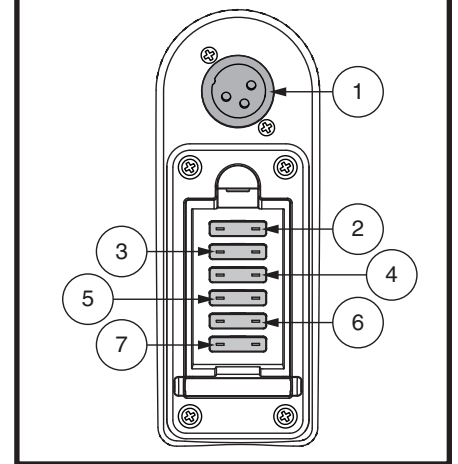

Figure 2. Off-board Charger Port/
The off-board charger power cord plugs into this port during battery charging. The off-board charger port is located on the tiller. See figure 2.
Your scooter is equipped with a series of electrical system fuses, which help protect the off-board charging system, key switch and lighting system from receiving an overload of electrical current. These fuses are the same type used in automobiles and are located in a compartment on the tiller. See figure 2. See VIII. “Care and Maintenance” for fuse replacement.
- Ensure the charger fuse on the tiller is not blown. See figures 2 and 25.